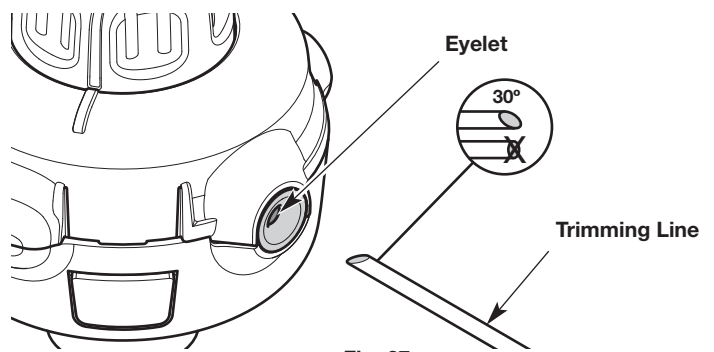

Fig. 27
2. Cut two 10-foot (3.0 m) lengths of new trimming line. Cut one end of each line at a 30 degree angle (Fig. 27).
4. Insert one of the lines into an eyelet on the cutting head (Fig. 27). Use the angled end and push the line in about 3 inches (7.5 cm). Repeat this process with the other line and remaining eyelet.